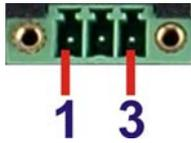

Figure 3-15: 3-pin Power Terminal Block Pinout Location
- CN Pinouts:** See **Table 3-5** and **Figure 3-15**